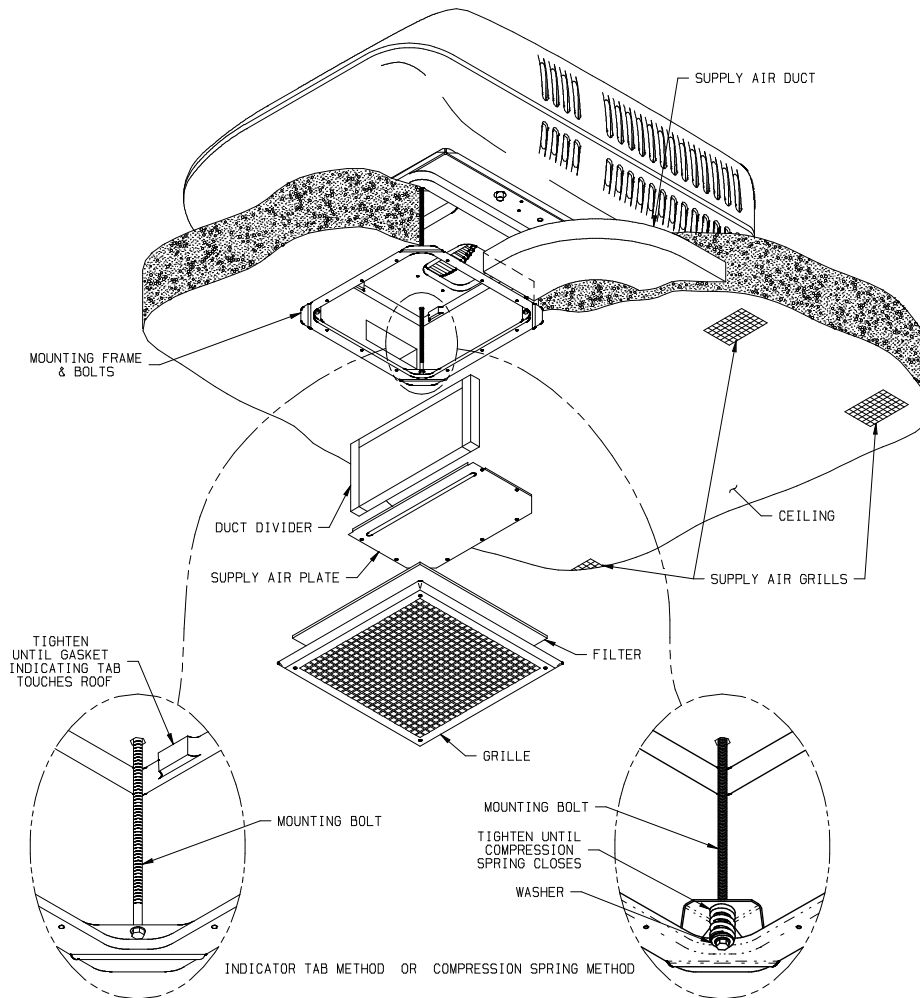

FIGURE 1
1. The field fabricated supply ducting must attach to both sides of the ceiling plenum. A minimum of two ducts are required, with one duct attached to each side of the plenum (See Figure 1).
### Mounting (Refer to Figure 1)
2. Position the mount frame into the ceiling opening (See Figure 1).
3. Using the four bolts provided, secure the mount frame to the roof top unit by assembling the bolts up through the clearance holes of the mount frame and into the bottom of the roof top unit (See Figure 1). Tighten bolts only to bring gasket indicating tabs or shelf even with roof.
**Refer to Figure 1**